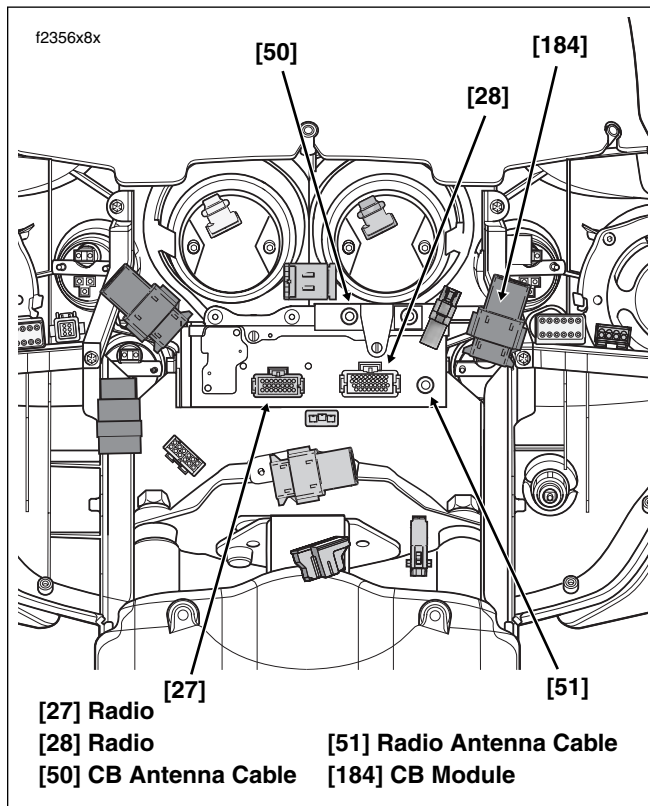

Figure 8-140. Radio Connections (FLHTC/U)
4. See Figure 8-140. Disconnect the following connectors:
3. See Figure 8-140. Connect the following connectors: